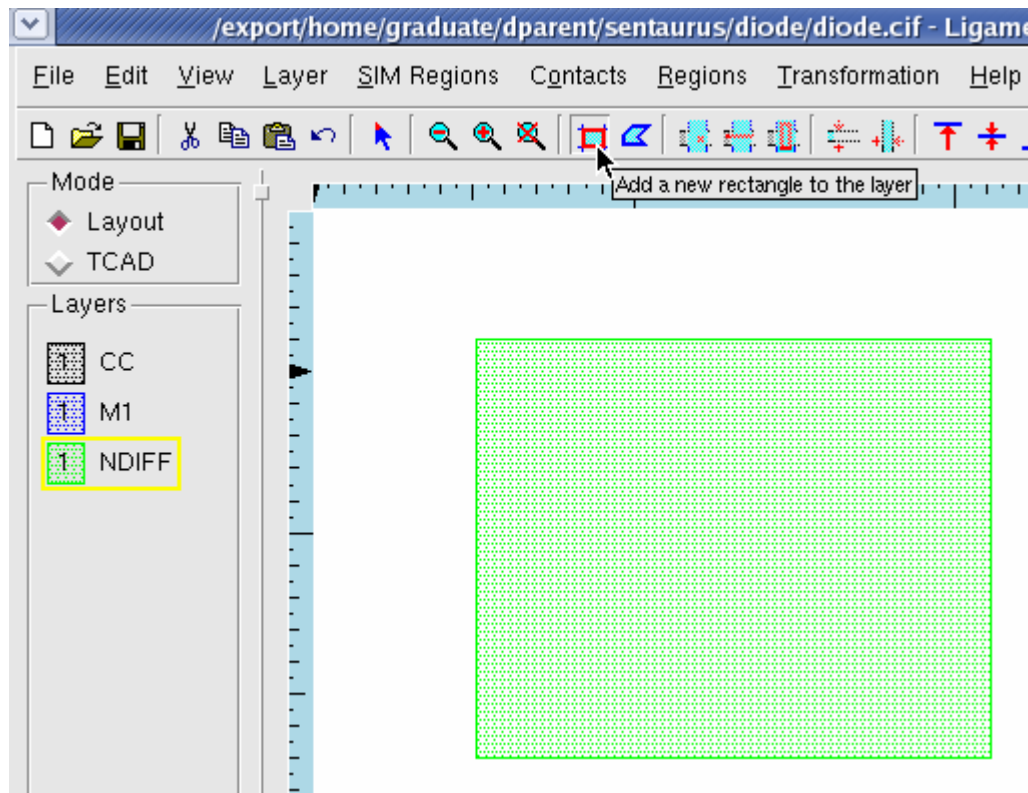

Figure 16: Drawing rectangle.
5. To add an area of NDIFF click on NDIFF in the selection area and click on the add a new rectangle icon (Figure 16).
6. Draw a rectangle of any shape or size in the editor window (Figure 16).